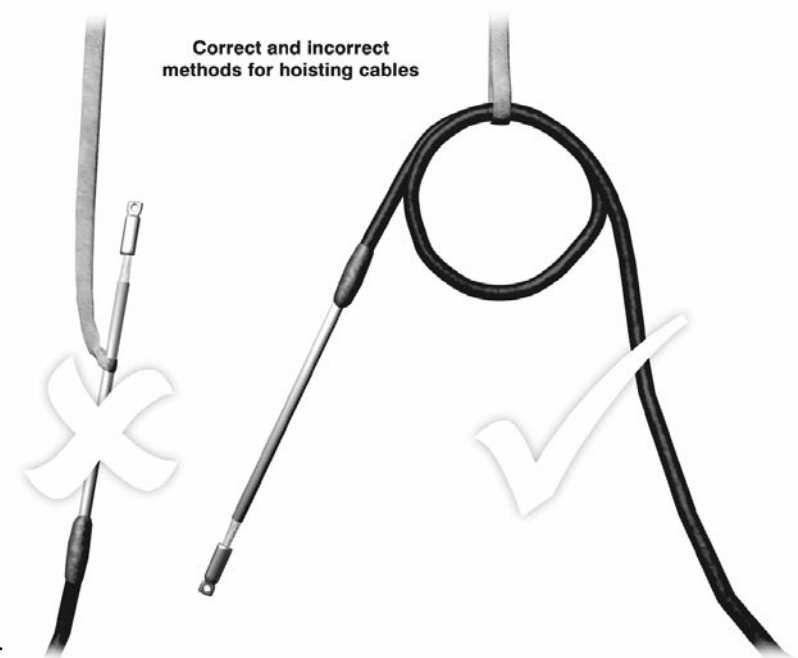

Figure 10.
- DO NOT haul the HVSC downconductor from the termination lug, see Figure 10.